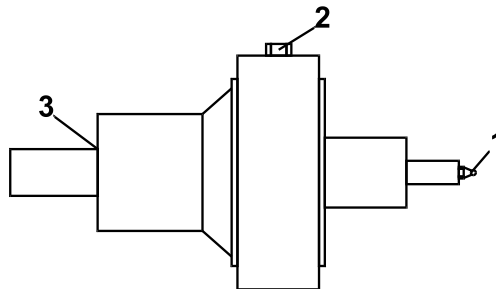

Figure 1
Regreasing is done via the grease inlet in the CYCLO DRIVE centrifuge reducer drive shaft (1) (see Figure 1). At least one of the inspection screws (2) on the pin ring must also be opened. Grease must be filled in until it starts to flow constantly out of the opened inspection screw. The reducer must then be turned by hand with open inspection screw until no more grease comes out of the inspection screw. This pushes the grease out from inside the rolling bearings and from the gaps in the cam disk carrier bore holes and prevents overpressure being created during operation. Once regreasing has been completed, the inspection screw must be screwed in again tightly with a new oil seal (see parts list).
Completely sealed CYCLO DRIVE centrifuge reducers can only be regreased when the machine is at a standstill. Regreasing is done via the grease inlet in the drive shaft (1) (see Figure 1). At least one of the inspection screws (2) on the pin ring must also be opened. The amount of grease required should be measured so that all of the lubricant will have been changed within half (1/2) a year according to the prescribed lubricating interval. The amounts of lubricant for the reducer can be found in the reducer specification tables. Recommended lubricating intervals approx. 1x a month or 500 operating hours or according to the instruction from the manufacturer of centrifuges.
Some types of reducer have a proper outlet for the excess grease from regreasing. These reducers can also be regreased during operation. Re-greasing can also be done continuously using a centralised lubricating system. Regreasing is done via the grease inlet in the drive shaft (1). (see Figure 1). The excess grease escapes via the provided opening (3) (Gap seal on the drive shaft, outward sealing shaft seal, bore holes in housing etc.). The amount of grease required should be measured so that all of the lubricant will have been changed within half (1/2) a year according to the prescribed lubricating interval. The amounts of lubricant for the reducer can be found in the reducer assembly drawing. Recommended lubricating intervals approx. 1x a month or 500 operating hours or according to the instruction from the manufacturer of centrifuges.